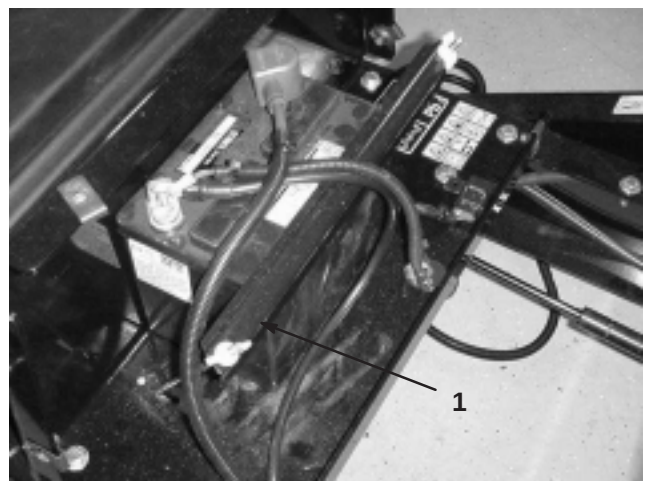

Figure 2
2. Remove the wing nuts, rods and battery holddown securing battery to blower chassis (Fig. 2).
10. Install the battery into the chassis (Fig. 2).
11. Secure the battery in the chassis with the battery holddown, rods, and wing nuts (Fig. 2).
12. Using the bolt and wing nut supplied with the battery, connect the positive (red) cable to the positive (+) battery post (Fig. 2). Slide the rubber cover over the battery post.
13. Using the bolt and wing nut supplied with the battery, connect the negative (black) cable to the negative (-) battery post (Fig. 2).